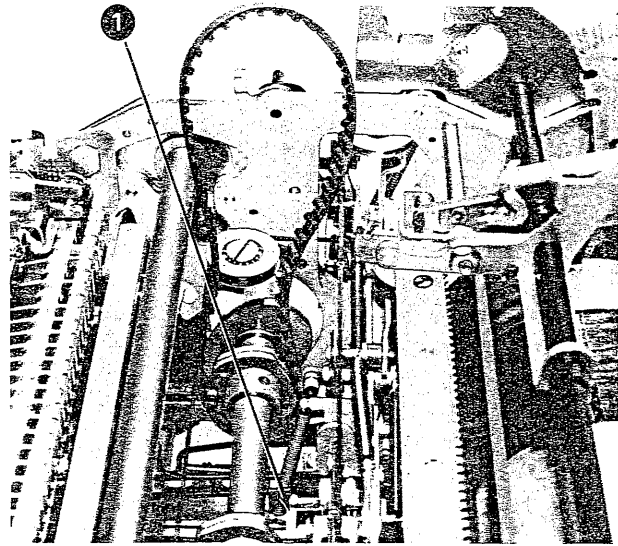
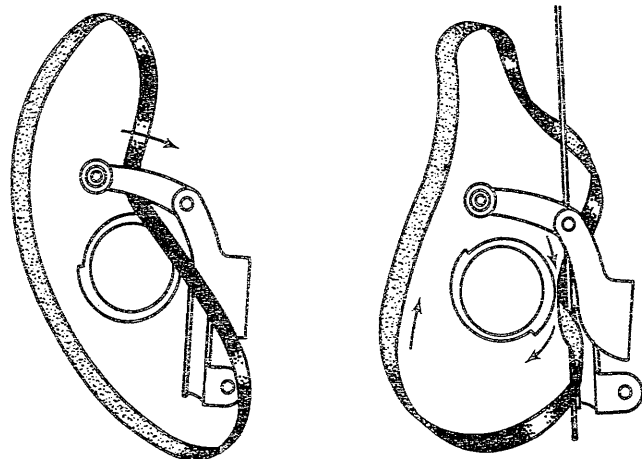

Figure 4-6. Alternate Belt Replacement
Figure 4-7. Belt Replacement (between Latch and Sleeve)
2. Slip the new belt through the bearing-plate hole, around the shaft, and over across the cycle shaft to the cycle-clutch latch (Figure 4-6). Work it between the latch and the cycle-clutch sleeve with the aid of a burnishing blade (Figure 4-7).